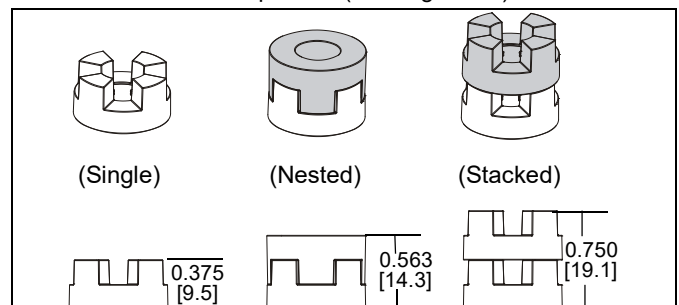

Figure 29
**NOTE:** The nesting spacers (WMA) may be used separately, or put two together in different configurations to create different size spacers. (See Figure 29)